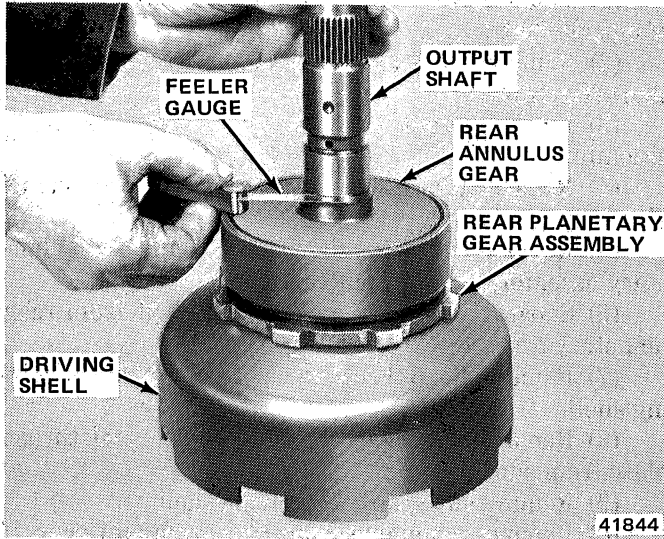

Fig. 2C-83 Measuring Planetary Gear Assembly End Play
(1) Remove No. 3 thrust washer from forward end of output shaft (fig. 2C-84).